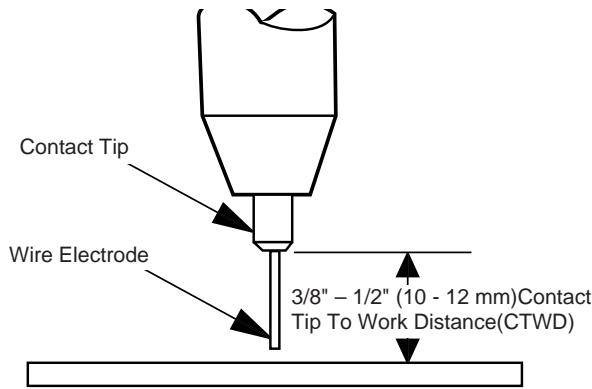

FIGURE B.6
13. Refer to Figure B-6. Cut the wire off 3/8" – 1/2" (10 – 12 mm) from the end of the tip. The SP 170-I is now ready to weld.